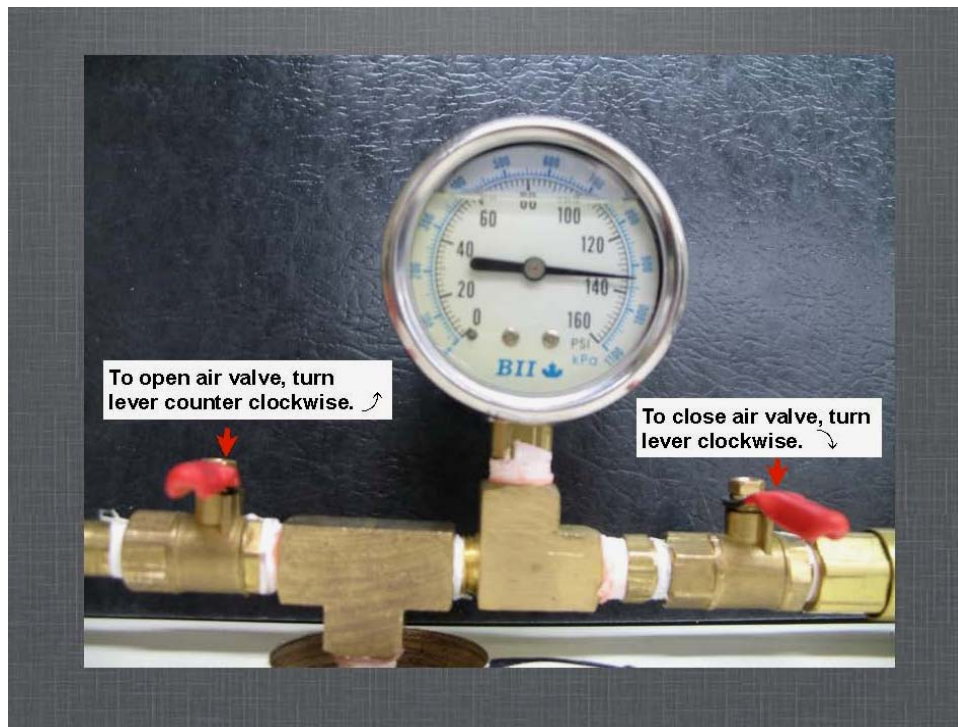

Fig. 5. On/off controls for the pressure value for both scale presses.
2. Turn on the compressed air connected to the scale press(es) by turning the lever(s) counter clockwise perpendicular to pipe. Conversely, to close the compressed air intake, turn the lever(s) clockwise (Fig 5).